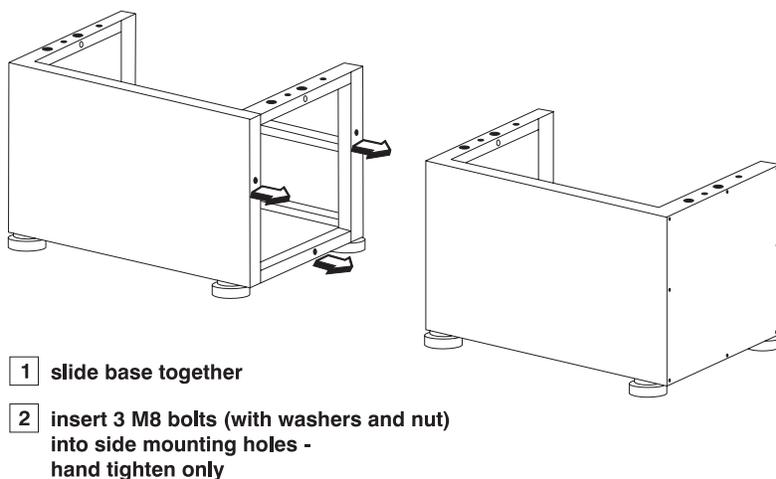

Figure 2.8. Slide bases together
- 6) Slide bases together. (Figure 2.8.)